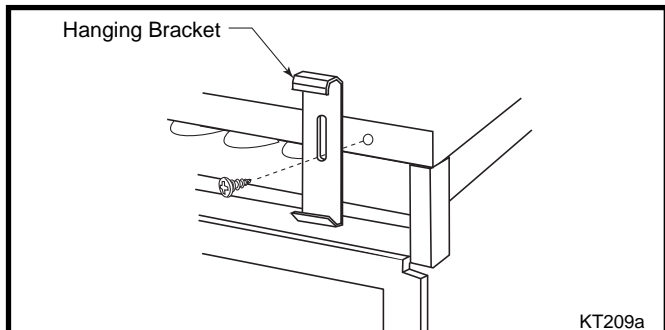

Fig. 63 Hanging bracket alignment.
2. Install the hanging brackets, as shown in Figure 63.